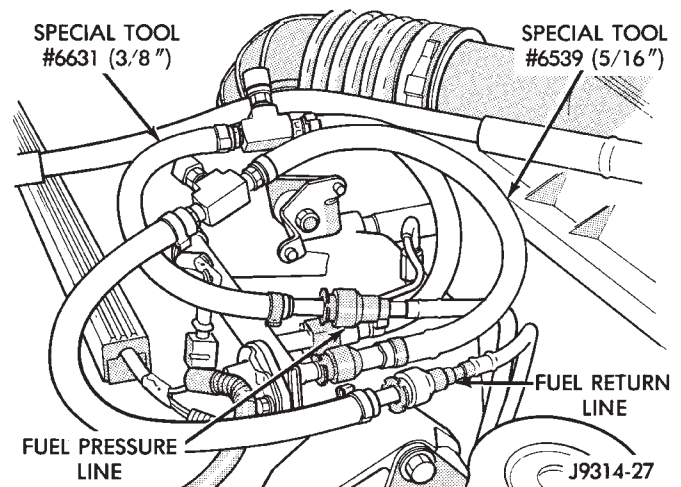

Fig. 12 Adapter Tools—Typical Connections
(2) Start the vehicle and let engine idle. Check fuel pressure reading on gauge. Fuel pressure should be within specifications. Refer to the previous Fuel System Pressure Tests.
(3) Shut engine off. Observe and record fuel pressure reading on gauge. Leave fuel pressure gauge connected. Allow engine to set for 30 minutes and then compare the fuel pressure reading on the gauge with the reading taken when engine was shut down. A pressure drop of up to 138 kPa (20 psi) within 30 minutes is within specifications.
(4) If the fuel pressure drop is within specifications, the fuel pump outlet check valve and fuel pressure regulator are both operating normally.
(5) If fuel pressure drop is greater than 138 kPa (20 psi), it must be determined if this drop is being caused by (in-tank mounted) fuel pump outlet check valve or fuel pressure regulator. Proceed to next step.
(6) Release the fuel system pressure from fuel system. Refer to the previous Fuel Pressure Release Procedure in this group.
(7) Disconnect both fuel lines at fuel rail near fuel pressure regulator. For procedures, refer to Fuel Tubes/Lines/Hoses and Clamps. Also refer to Quick-Connect Fittings. These can be found in the Fuel Delivery System section of this group.
(8) Connect Fuel Line Pressure Test Adapter Tool number 6631 (3/8 in.) between the disconnected fuel supply line and fuel rail (Fig. 12).
(9) Connect Fuel Line Pressure Test Adapter Tool number 6539 (5/16 in.) between the disconnected fuel return line and fuel rail (Fig. 12).